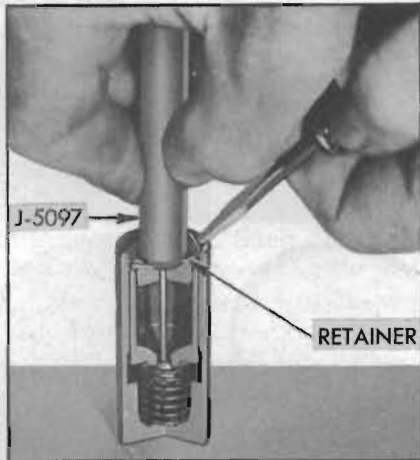

Figure 2-14—Removing Retainer with Depressor J 5097
1. Insert the spring loaded pin of Plunger Depressor J 5097 through hole in push rod seat to hold the check ball off its seat, then depress plunger and seat far enough to remove plunger retainer. See figure 2-14.
3. Rinse push rod seat and plunger retainer, place seat on plunger and depress these parts with Depressor J 5097 (fig. 2-14) while installing the plunger retainer in groove in lifter body.